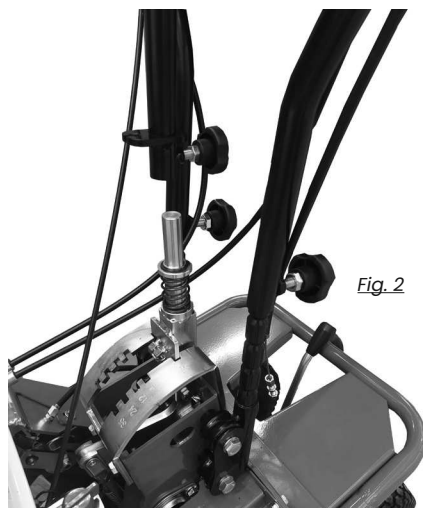

Fig. 2
- Insert the cable terminal of the cutting height lifting release cable and lock it in the appropriate seat. Insert the cable adjuster into the lever seat and adjust the cable tension; finally lock the register with the lock nut as in the figure 2.